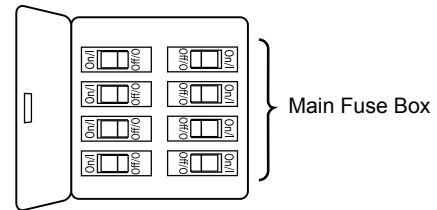

Figure 1
1. Slide blades through slots in motor housing and attach to the motor hub using the #8-32 serrated head screws and flat washers. Make sure the screws securing the blades to the motor hub are tight and are properly seated. (Figure 1)
1. Remove the hanger ball portion from the downrod/hanger ball assembly by loosening the set screw in the hanger ball until the ball falls freely down the downrod. Remove the pin from the downrod, then remove the hanger ball. Retain the pin and hanger ball for reinstallation in Step 6. (Figure 1)
To avoid possible fire or shock, be sure electricity is turned off at the main fuse box before hanging. (Figure 1)
1. To set the code on receiver unit, slide dip switches to the same positions as set on the remote. (Figure 1)